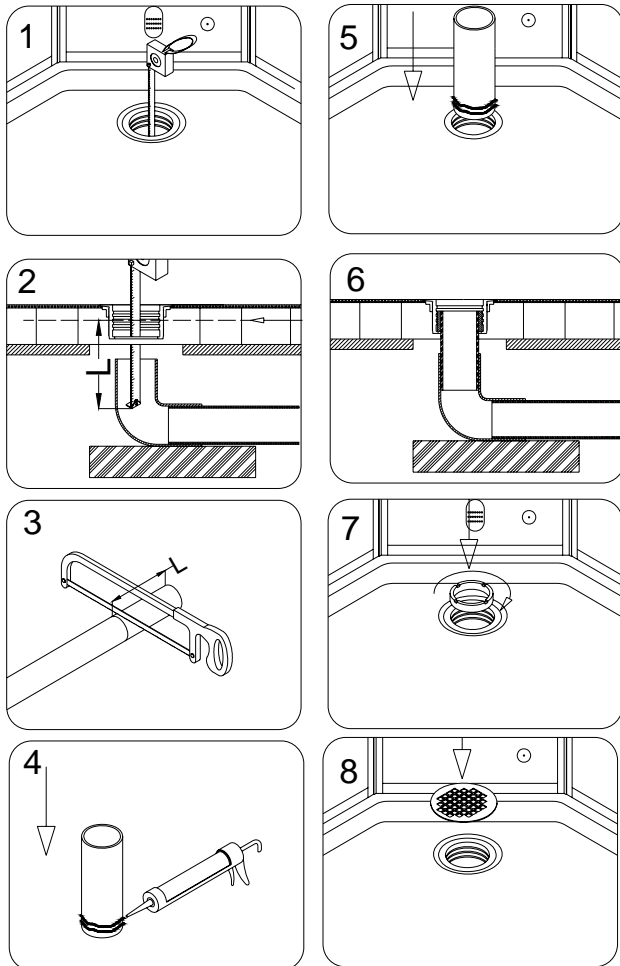
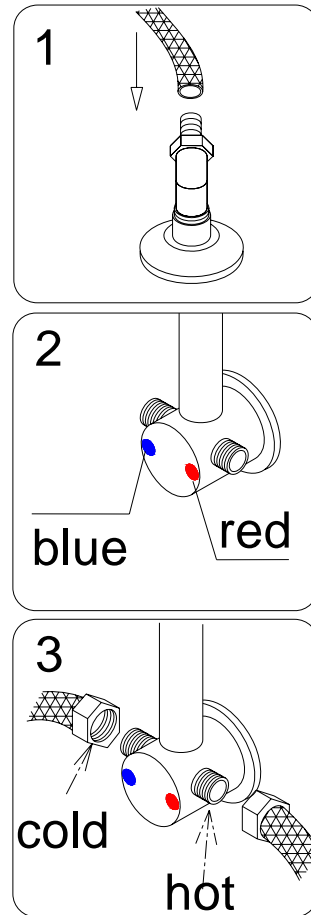

Fig. 15
Fig. 16
16. Measure the distance from straight part of the elbow or bushing to the top of the drain less 1/2". See Fig 15 (Image 1 and 2). Cut the piece off the 2" PVC pipe according to the measurements. See Fig 15 (Image 3). Clean the PVC pipe and elbow according to the PVC glue manufactory instructions. Apply the PVC glue to the elbow and PVC pipe and push the pipe down into the elbow. Hold it for 45 sec to 1 min to glue them together. Fig 15 (Image 4-6).
17. After the glue had settled finish the assembling of the drain according to the drain manufactory instructions. Fig 15 (Image 7-8).
18. Bring the **Control panel (01)** inside the cabin.
19. Connect hot water supply line to the red mark water inlet and cold water supply line to the blue mark water inlet. Connect the steam generator supply line and head shower water tubing to the valve. Make sure all water connections are water tight Fig 16.